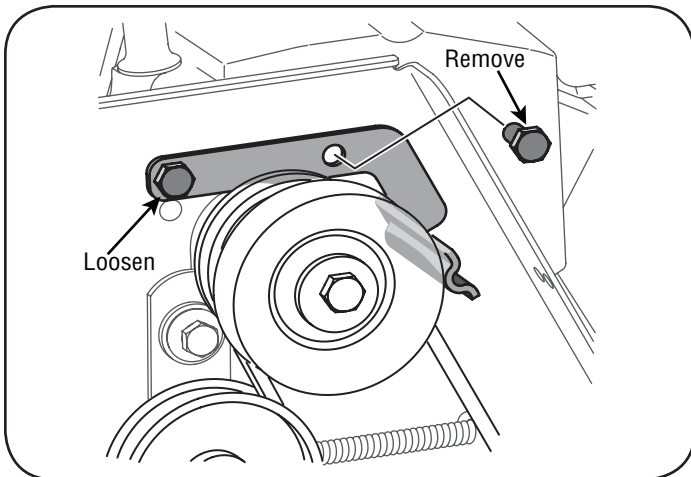

Figure 23
3. a. Loosen the bolt shown in Figure 23 securing the belt keeper bracket and remove the other bolt.